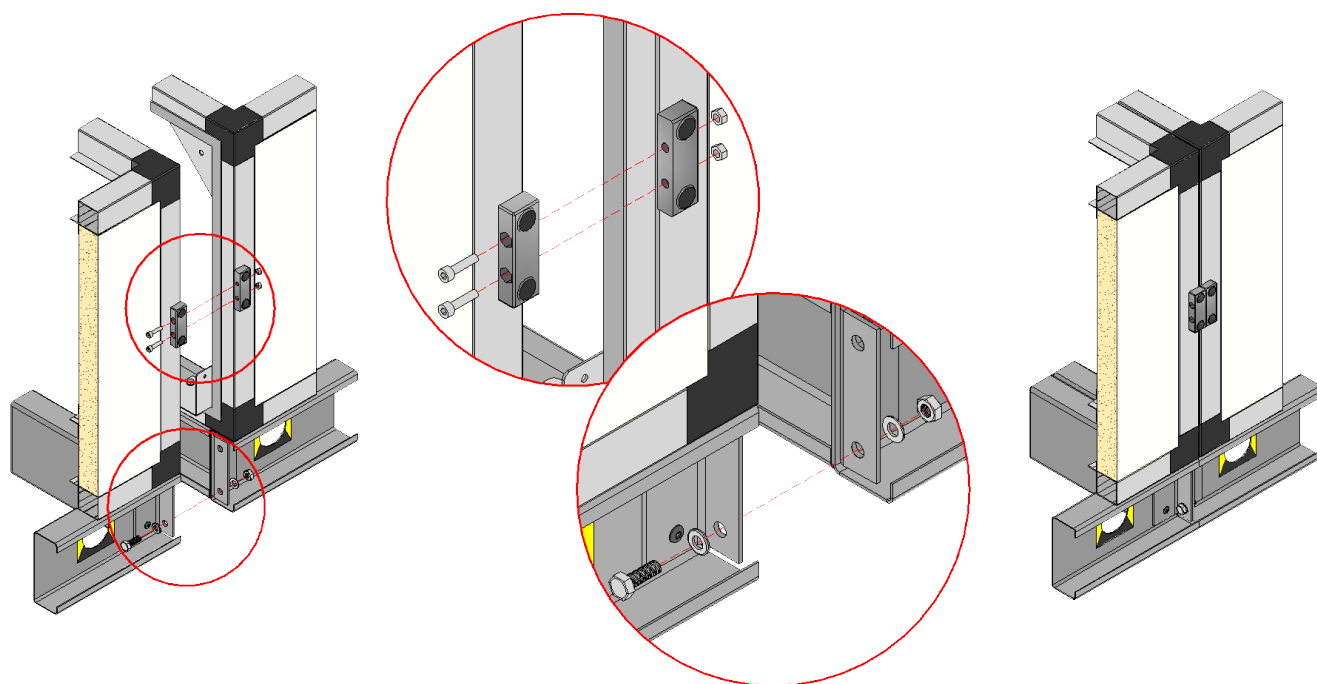
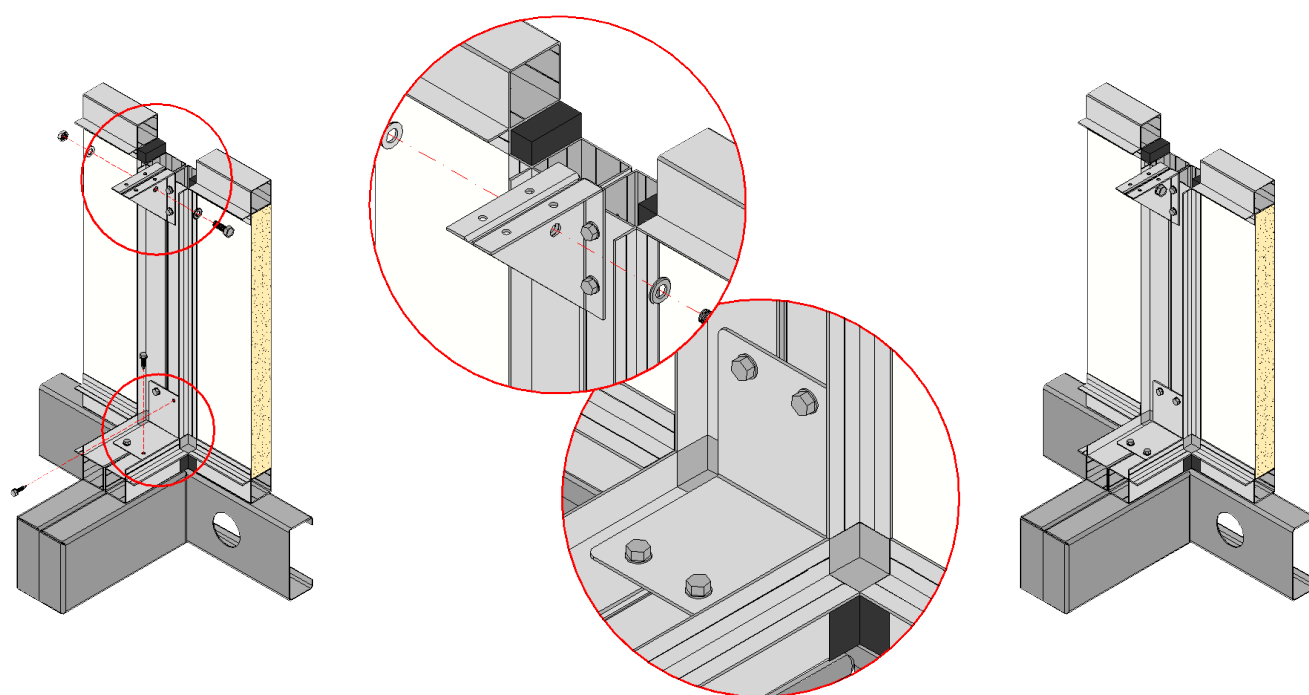

Fig. 5
Fig. 6
3. Bolt sections together by means of holes provided in the profiles and using M8 bolts supplied with the unit. Fasten gradually and alternatively along the full perimeter (fastening couple 8-12 Nm/0,8-1,2 kgm) until gasket between profiles is fully and uniformly pressed (see Fig. 5 and Fig. 6).